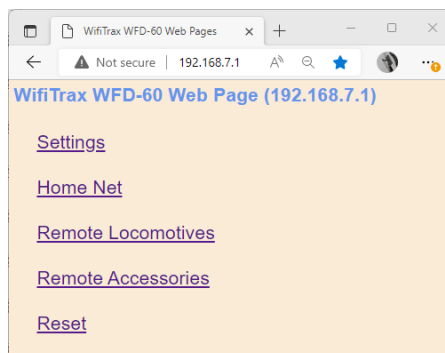

Figure 10 The Main Menu of the WFD-60
- (5) Now you are ready to start working on your WFD-60. On your computer, tablet or phone connect to its Wi-Fi Access Point, wftrx\_WFD60\_1\_XXXXXXX\_7, where XXXXXXXX is its serial number.
- (6) Open a browser and type 192.168.7.1 into the URL textbox, then hit enter. This should display the main menu as in Figure 10.